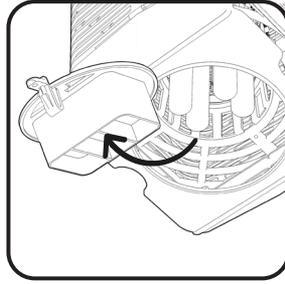

Fig. 2
4. Lift up grate to access bulb. (Fig. 2)